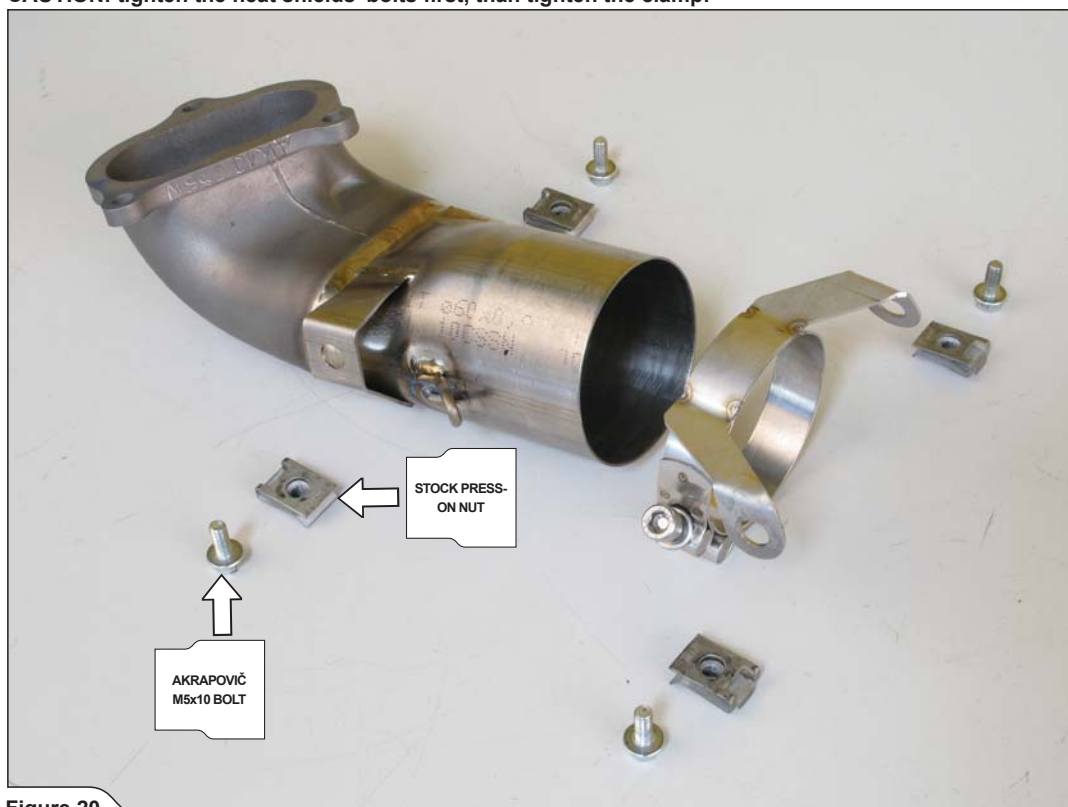

Figure 20
1. Assemble the stock heat shields onto the front header pipe, using stock press-on nuts and additional clamp and bolts from Akrapovič installation kit; attach the spring as shown (Figure 20, 21).